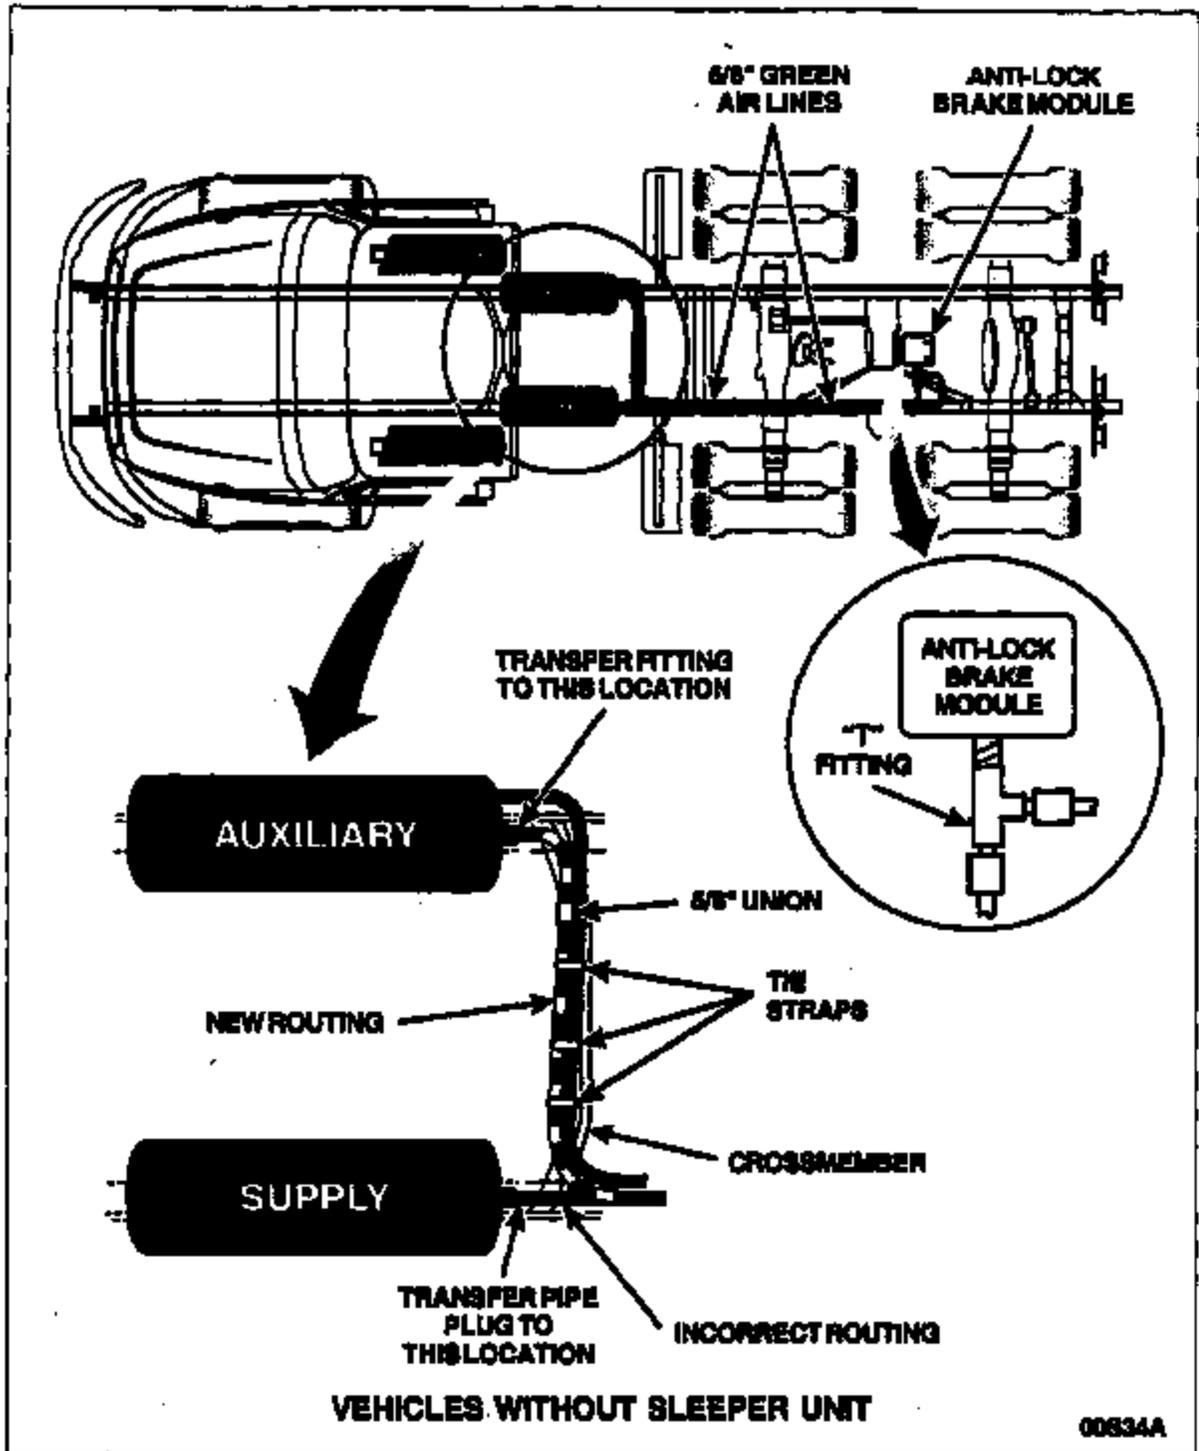

FIGURE 1
**NOTE: REFER TO FIGURE 1 FOR ALL COMPONENT LOCATION AND AIR LINE ROUTING ON VEHICLES WITHOUT SLEEPER UNITS.**
1. **NOTE:** Two (2) green 5/8-inch air lines may enter the supply tank. The air line at the rear of the tank is routed to the anti-lock brake module.